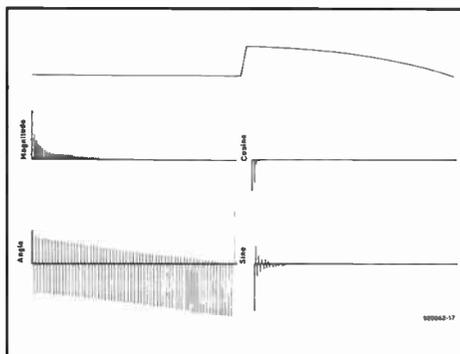

Fig. 6. Controlled (full) rectified wave.
*Wave V* is a full-wave rectified wave under phase control, resulting practically in a variable DC source. At a 50% control ratio, the DC level is 67% and the harmonic content is worse than in *Wave III*. The Fourier analysis is plotted in Fig. 6. Although this yields a variable DC source, there is a problem in the filter selection: the smoothing capacitor chosen must be capable of by-passing high frequencies up to five times the supply frequency.